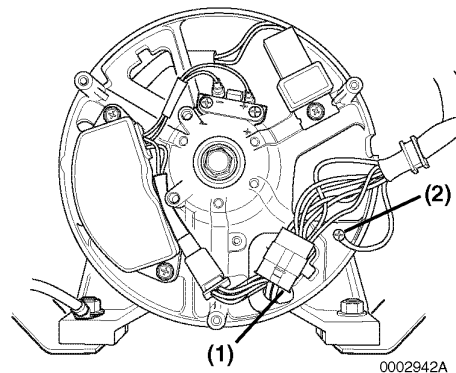

Figure 7-41
Note: YDG2700 models use one six terminal connector (**Figure 7-41, (1)**) from the control panel and one ground wire (**Figure 7-41, (2)**) fastened to the rear housing.